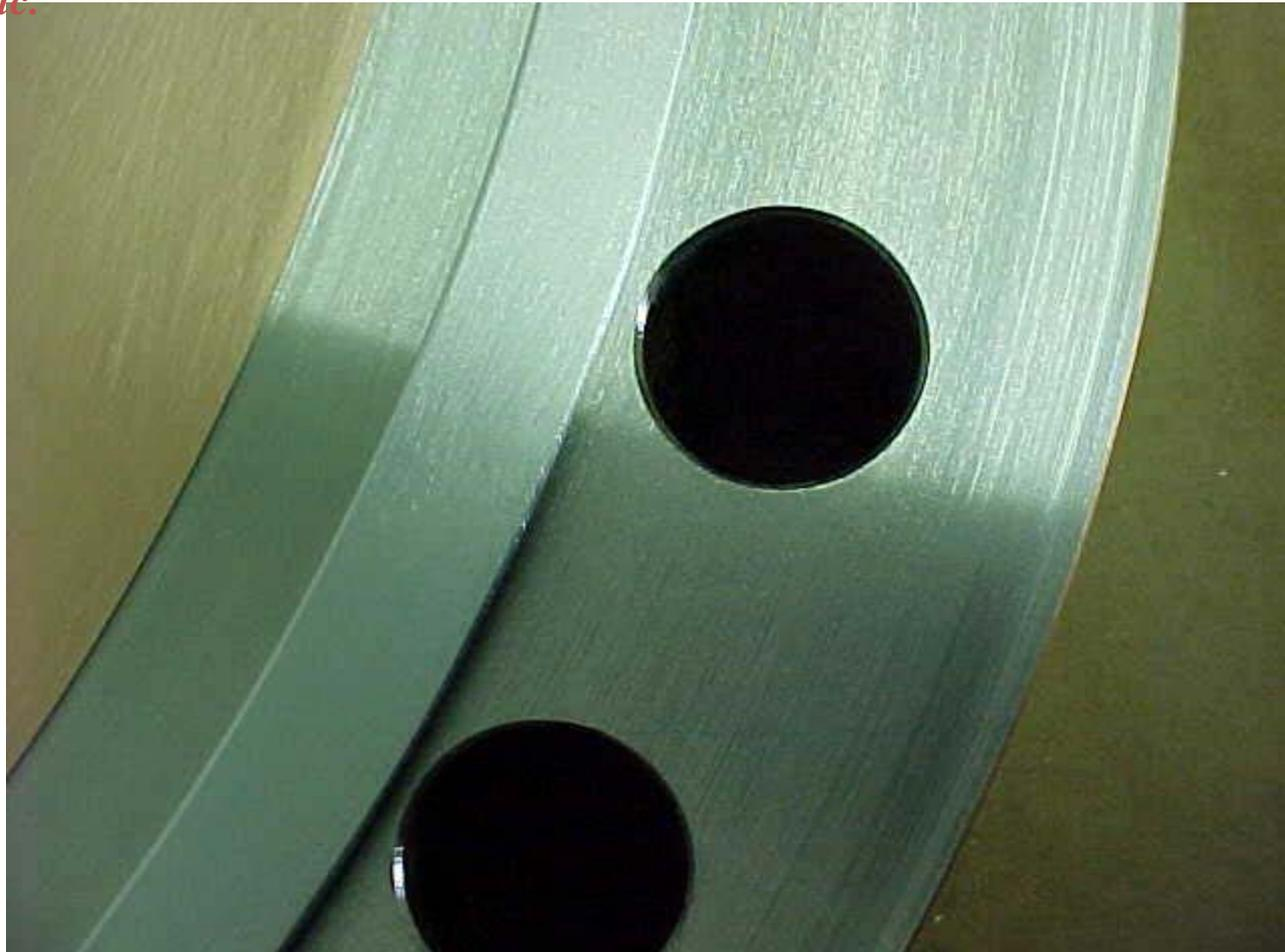

Fig. 5. Polished with SS wires Aluminum sealing ring installed on treated cavity cover
- ▶ **The 0.04” Aluminum sealing rings were polished with SS wires avoiding radial scratches, Fig. 5.**